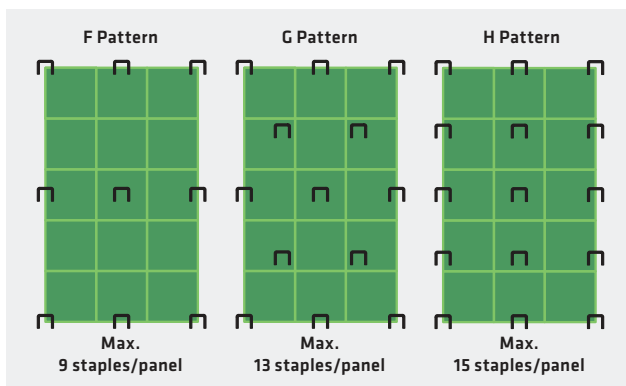

FIGURE 1: Anchor Patterns for use with staples/stakes
1. When installing the ShoreMax Mat, the anchor pattern (Figures 1 or 2) should be selected based on the expected maximum design conditions (shear stress, velocity or wave impact) (Table 1).